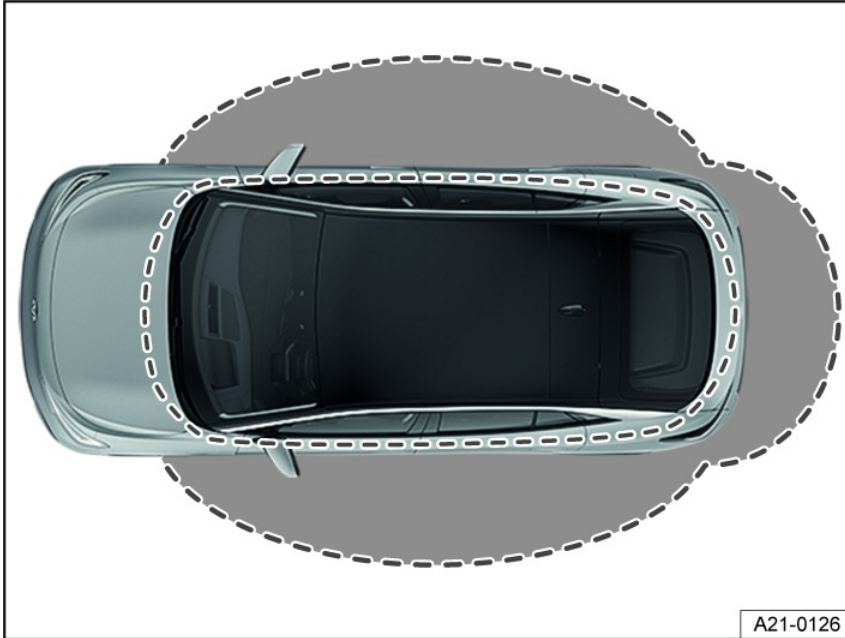

Fig. 43 Keyless Access: general example of the sensor ranges.
- If the vehicle key is detected within the range of any of the sensors, the vehicle is then unlocked fig. 43. All turn signals will flash twice.